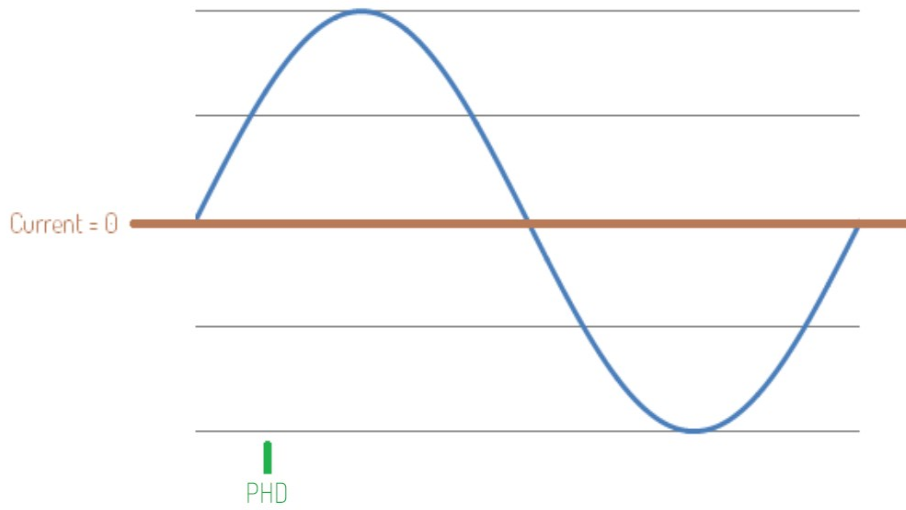

Figure 90. Phase detect trigger.
- PHD – Phase detect, A signal reached given phase (only applicable to tACS) (Figure 90)